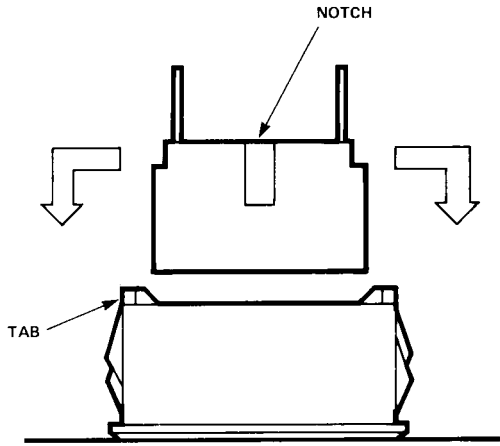

Figure 1. Installation of a Light Bar into a Panel Mount.
2. Place the front of the mount against a solid, flat surface. A film legend with outside dimensions equal to the outside dimensions of the light bar may be placed in the mount or on the light bar light emitting surface. Press the light bar into the mount until the tabs snap over the back of the light bar[4]. When inserting the HLMP-2898, align the notched sides of the light bar with the mount sides which do not have the tabs. (See Figure 1.)